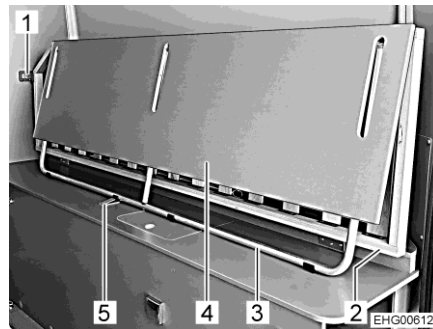

Fig. 45 Bed base, folded up (transport position)
- Detach the bed base (Fig. 45,2) with centre section (Fig. 45,4) from the frame holder (Fig. 45,5 and Fig. 46,1) and wall holder (Fig. 45,1 and Fig. 47,1) and fold down.
- Fold the frame (Fig. 45,3 and Fig. 48,1) downwards.
- Place the centre piece (Fig. 45,4 and Fig. 48,2) on the shelf on the opposite side.
- Fold the bed base (Fig. 45,2) with centre piece (Fig. 45,4 and Fig. 48,2) and the frame (Fig. 45,3 and Fig. 48,1) upwards.
- Lock the bed base with wall holder (Fig. 45,1 and Fig. 47,1).
- Lock the frame with frame holder (Fig. 45,5 and Fig. 46,1).